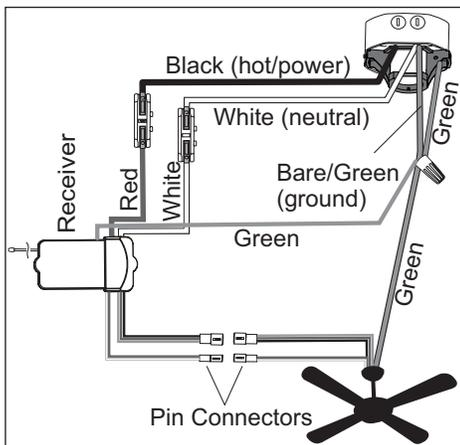

Figure 4.1
1. Make the following wire connections according to the diagram and these steps (Figure 4.1):